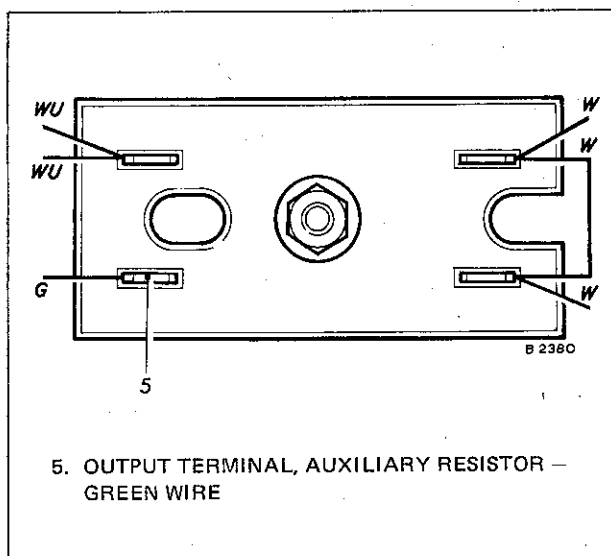

Fig. 4 Checking continuity of the auxiliary resistor
2. Connect the voltmeter positive lead to the output terminal of the auxiliary resistor—the terminal with a green wire (5, Fig.4).